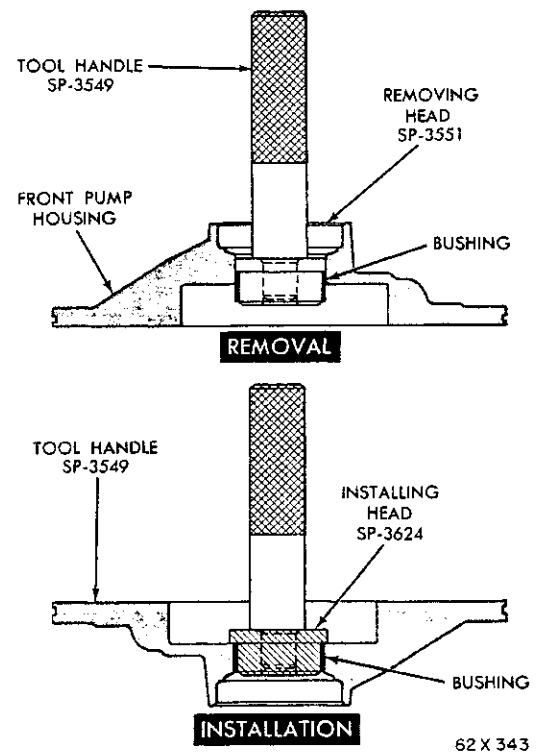

Fig. 82—Removing and Installing Front Pump Bushing—TorqueFlite Six
- (1) Place the front pump housing (seal face-down) on a smooth firm surface.
- (2) Place the removing head, Tool SP-3551 in the bushing and install the handle, Tool SP-3549 in the removing head (Fig. 82).
- (3) Drive the bushing straight down and out of the pump housing bore. Be careful not to cock the tool in the bore.
- (4) Position the new bushing on the installing head, Tool SP-3624.
- (5) With the pump housing on a smooth clean surface, start the bushing and installing head in
the bushing bore. Install the handle, Tool SP-3549 in the installing head (Fig. 82).